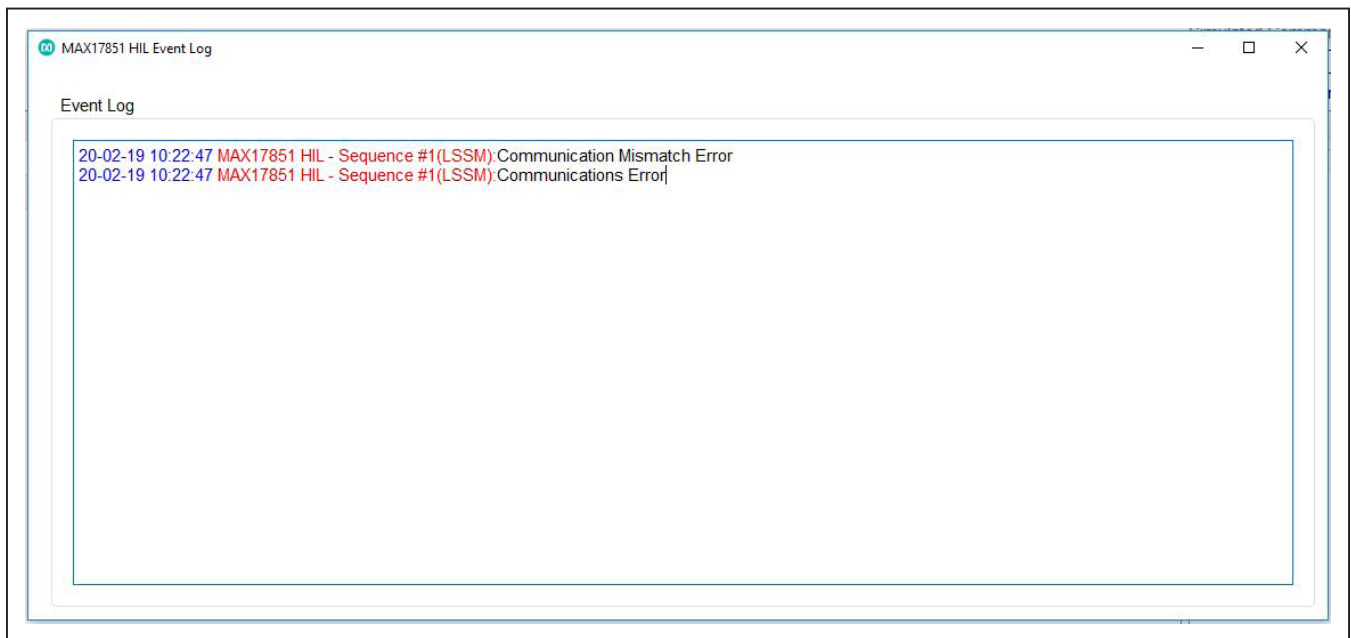

Figure 20. HIL event log
- 10) Click on the **Event Log** button located at the bottom right side of the **HIL** tab. In the **HIL Event Log** panel (Figure 20), observe the **LSSM** faults that were simulated.